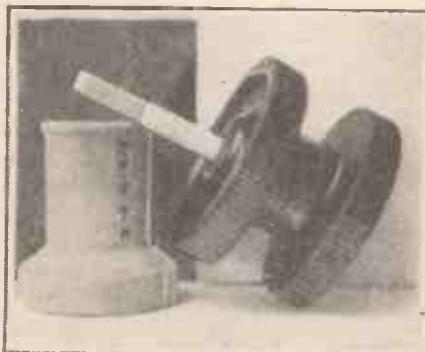
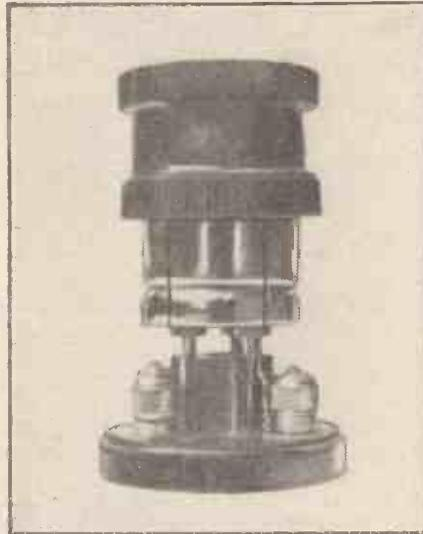
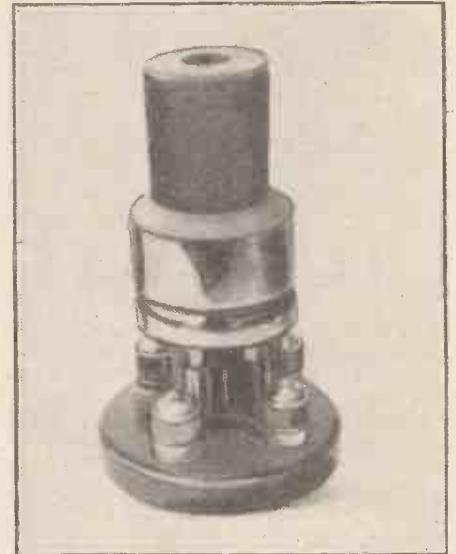

Fig. 6. Commencing another form of aperiodic H.F. transformer.
Fig. 7. The finished transformer.
Fig. 8. A useful tapped fixed resistor.
Fig. 6 shows the two formers required for making (A) a more compact form of aperiodic H.F. transformer (Fig. 7), and (B) a tapped fixed resistor (Fig. 8). The first-mentioned consists of two large ebonite
The former for the tapped resistor (Fig. 8) consists of a wooden cotton reel which is cut to the form shown on the left of Fig. 6.